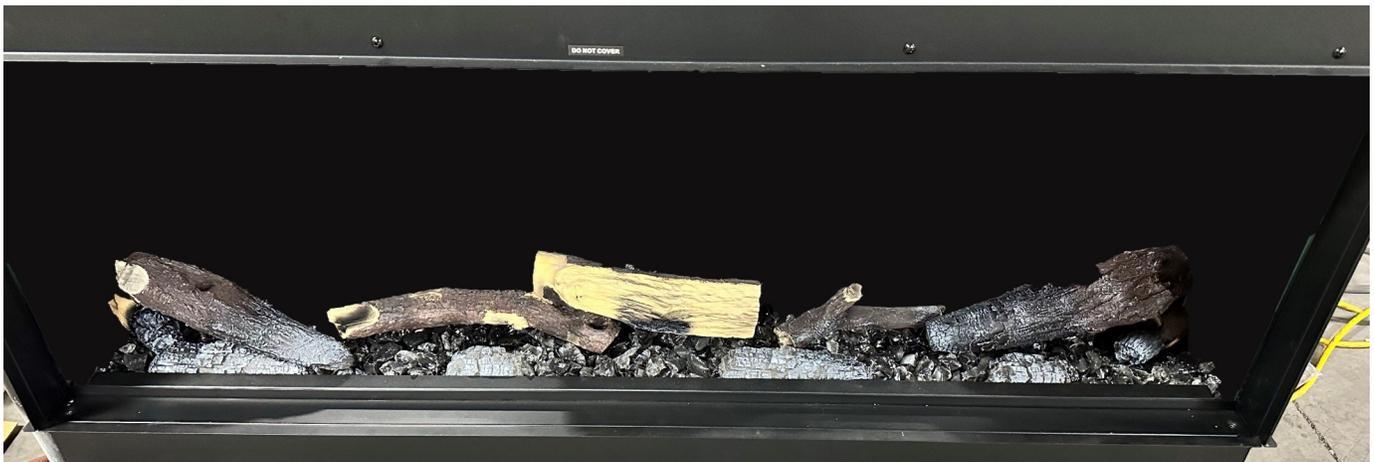

Figure 4.5 - Completed log set.
- Figure 4.5 shows the remaining logs installed.